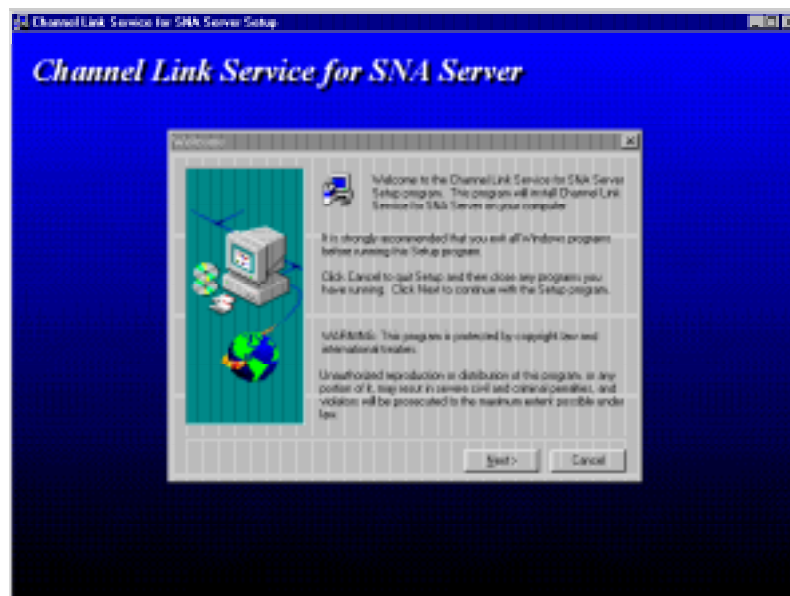

Figure 8-3. Welcome Dialog Box
2. A Welcome dialog box appears (See Figure 8-3). Click **N**ext to proceed to the next dialog screen.